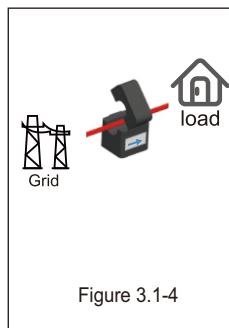

Figure 3.1-4
- CT connection: Make sure that the CT is connected between the load and the grid and the direction is pointing to the inverter, and follow the direction mark on the CT, see Figure 3.1-4.